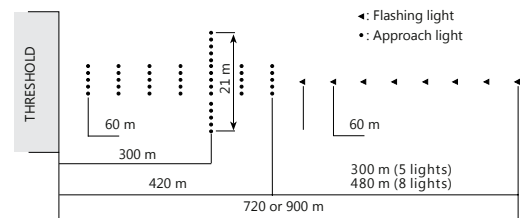

Fig. 6 SSALR (FAA)
- to complete reduced steady burning patterns in FAA ASFL, SSALR (Fig. 6) or MALSR systems